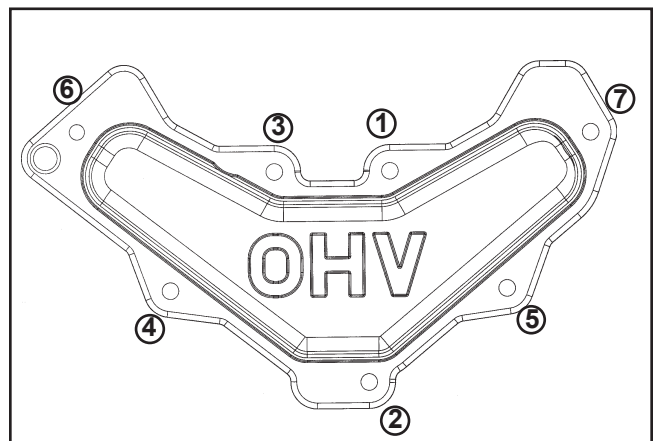

Figure 10-46. Valve Cover Fastener Torque Sequence.
3. Torque the valve cover screws to **11.0 N·m (95 in. lb.)** into new, as-cast holes, or **7.5 N·m (65 in. lb.)** into used holes, using the sequence shown in Figure 10-46.